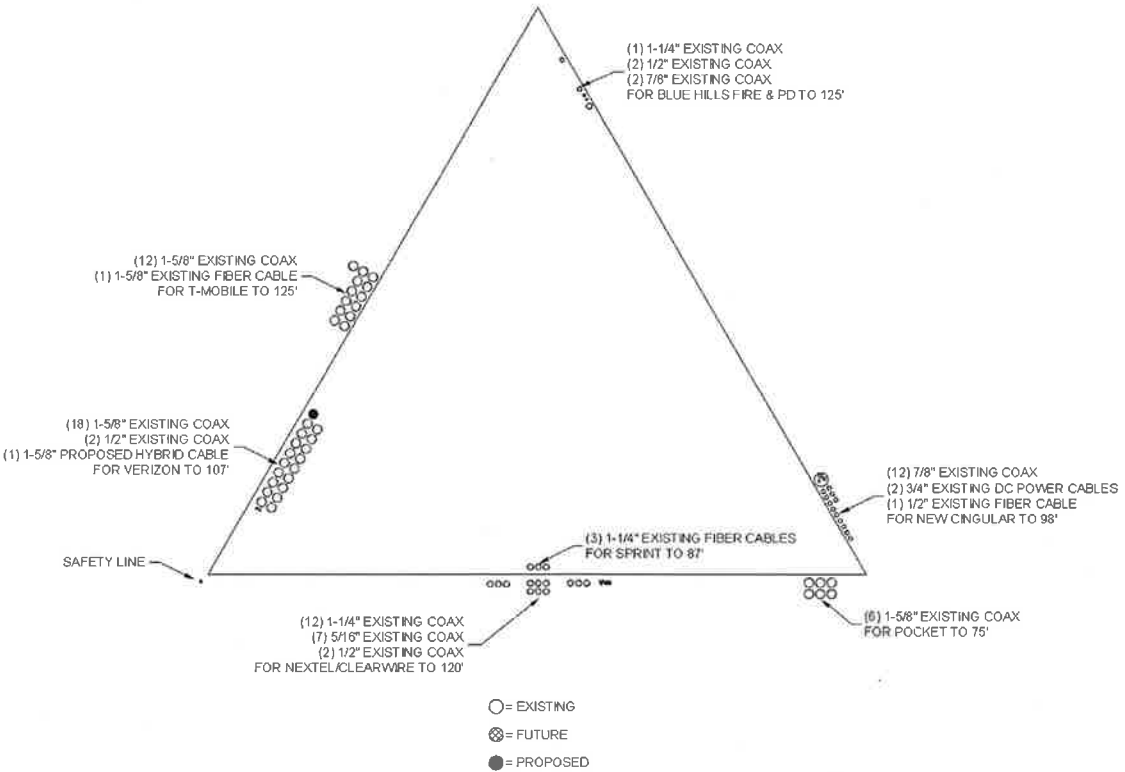

Figure 1 – Coax Layout
1. The Coax must be installed as shown in **Figure 1**.